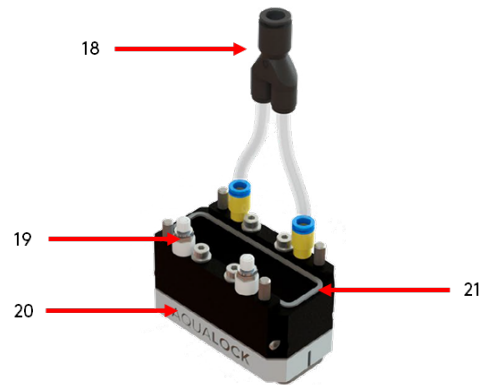

Figure 8: R-Scan Array water box
- b. Removing the supplied probe seal (page 17, item 21 of figure 8) from the water box and fixing to the probe.